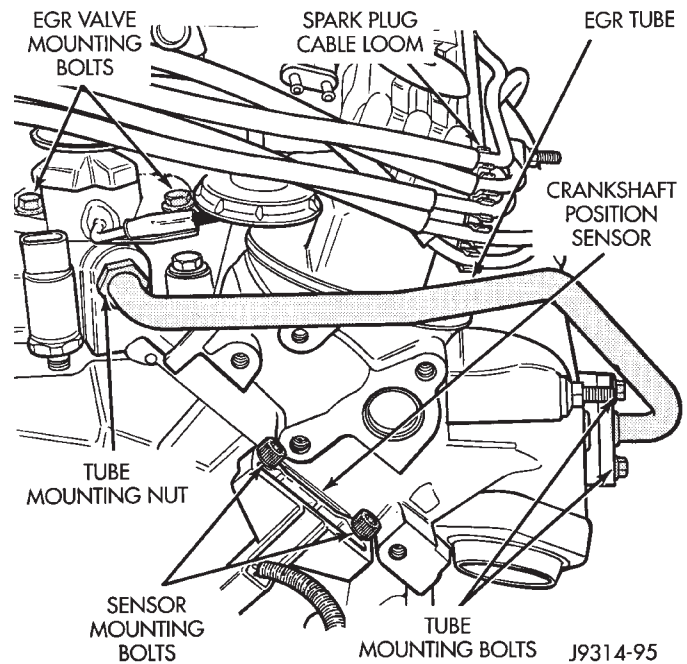
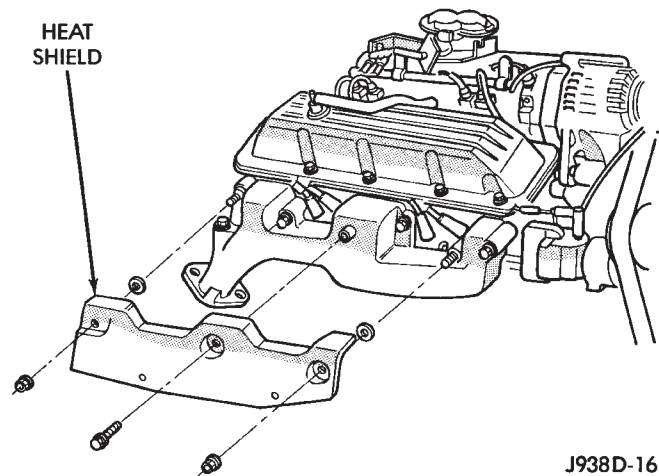

Fig. 7 Crankshaft Position Sensor—5.2L Engine
Fig. 8 Exhaust Manifold Heat Shield—5.2L Engine
The sensor is bolted to the top of the cylinder block near the rear of right cylinder head (Fig. 7).
- (1) Remove the spark plug cable loom and spark plug cables from valve cover mounting stud at rear of right valve cover (Fig. 7). Position spark plug cables to top of valve cover.
- (2) Remove the right exhaust manifold heat shield nuts/bolts and remove heat shield (Fig. 8).
- (3) Disconnect 2 hoses at Exhaust Gas Recirculation (EGR) valve. Note position of hoses at EGR valve before removal.
- (4) Disconnect electrical connector and hoses at electric EGR transducer (EET). Note position of hoses at EET before removal.
- (5) Remove 2 EGR valve mounting bolts (Fig. 7) and remove EGR valve. Discard old EGR gasket.
(8) Loosen EGR tube mounting nut at intake manifold (Fig. 7).
(9) Remove 2 EGR tube mounting bolts at exhaust manifold (Fig. 7) and remove EGR tube. Discard old gasket at exhaust manifold.
(10) Disconnect crankshaft position sensor pigtail harness from main wiring harness.
(11) Remove 2 sensor (recessed hex head) mounting bolts (Fig. 7) and remove sensor.